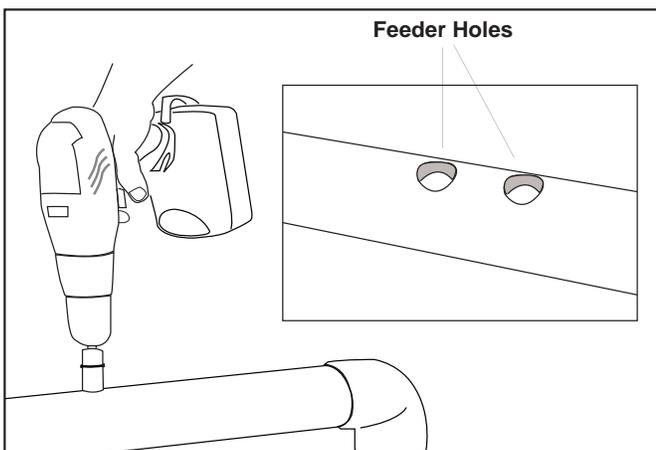

Figure 7. Drilling Feeder Holes
- Drill the feeder holes using the holesaw provided. Ensure holes are clean and smooth (see Figure 7).